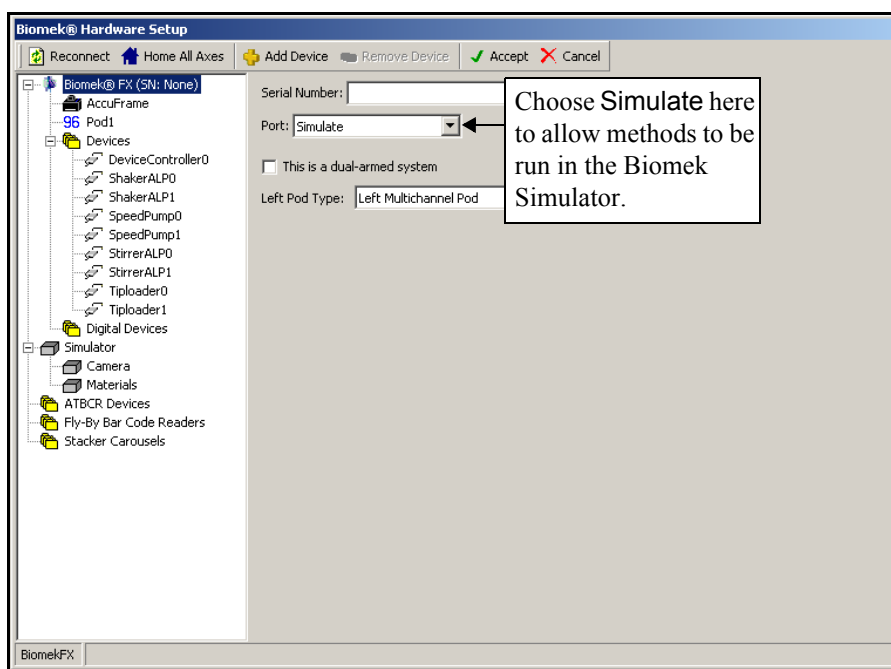

Figure 1-14. Hardware Setup
1. From the toolbar, choose **Instrument>Hardware Setup**. Hardware Setup appears (Figure 1-14).